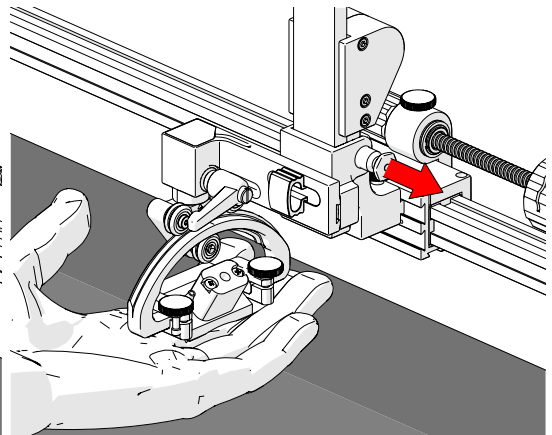
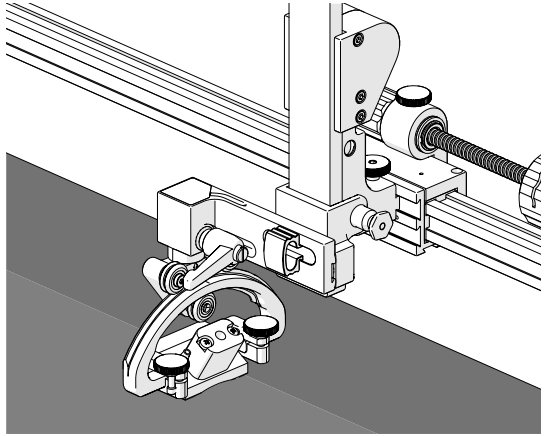

Fig. 211 - Pull latch pin
Fig. 212 - Lower probe to inspection surface
2. Pull the latch pin (Fig. 211) and slowly lower the probe holder to the scan surface (Fig. 212).